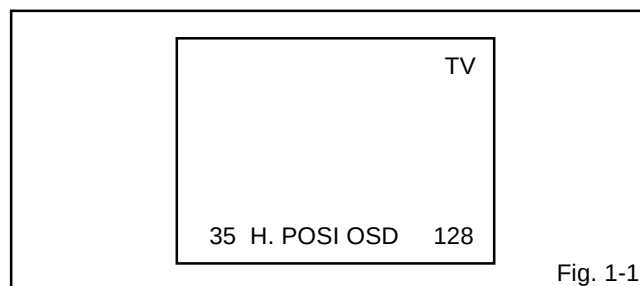

Fig. 1-1
Press the VOL. DOWN button on the set and the Channel button (**9**) on the remote control for more than 2 seconds to appear the adjustment mode on the screen as shown in **Fig. 1-1**.
4. Activate the adjustment mode display of **Fig. 1-1** and press the channel button (**01**) on the remote control to select "RF AGC".
3. Activate the adjustment mode display of **Fig. 1-1** and press the channel button (**00**) on the remote control to select "CUT OFF".
4. Activate the adjustment mode display of **Fig. 1-1** and press the channel button (**04**) on the remote control to select "R CUT OFF".
3. Activate the adjustment mode display of **Fig. 1-1** and press the channel button **(08)** on the remote control to select "H POSI(50)".
7. Activate the adjustment mode display of **Fig. 1-1** and press the channel button **(39)** on the remote control to select "H POSI(60)".
3. Activate the adjustment mode display of **Fig. 1-1** and press the channel button **(11)** on the remote control to select "V SIZE(50)".
7. Activate the adjustment mode display of **Fig. 1-1** and press the channel button **(12)** on the remote control to select "V SIZE(60)".
4. Activate the adjustment mode display of **Fig. 1-1** and press the channel button **(17)** on the remote control to select "BRIGHT CENT".
2. Activate the adjustment mode display of **Fig. 1-1** and press the channel button **(22)** on the remote control to select "CONT CENT".
4. Activate the adjustment mode display of **Fig. 1-1** and press the channel button **(25)** on the remote control to select "COLOR CENT".